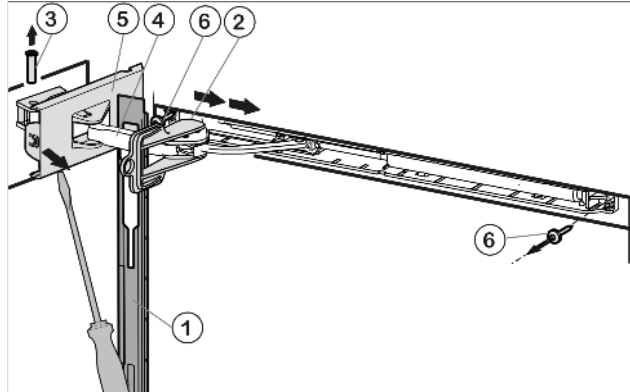

Fig. 53
- Push panel forward over the damper bracket *Fig. 53 (4)* in the direction of the appliance.
- Engage locking device *Fig. 53 (2)* into place inside oblong hole.
- Unscrew cover that is on the hinge side *Fig. 53 (5)* until the first notch using a screwdriver.
- Push bolt *Fig. 53 (3)* out from below.
- Press damper bracket *Fig. 53 (4)* in the direction of the door.
- Completely loosen cover that is on the hinge side *Fig. 53 (5)* and remove.
- Remove panel *Fig. 53 (1)*.
- Unscrew soft stop unit (2 x Torx 15) *Fig. 53 (6)*.